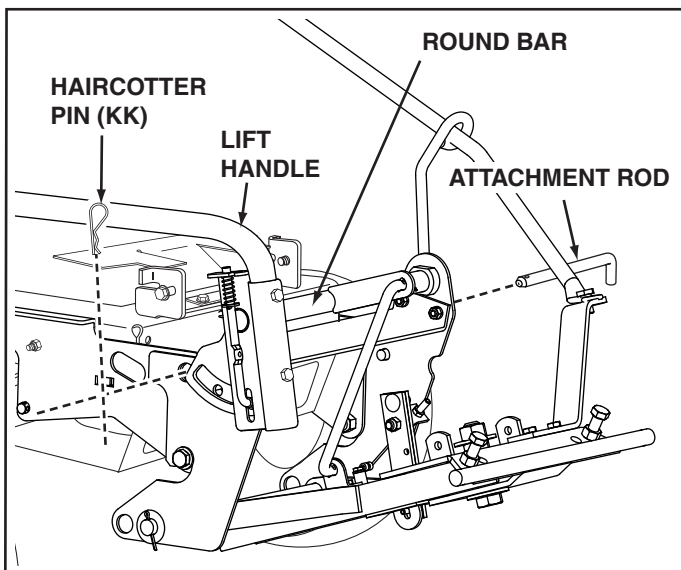

FIGURE 29
STEP 2: (SEE FIGURE 29)
- From the left side, insert the attachment rod through the holes in the frame assembly and the frame brackets and secure with a haircotter pin (KK).